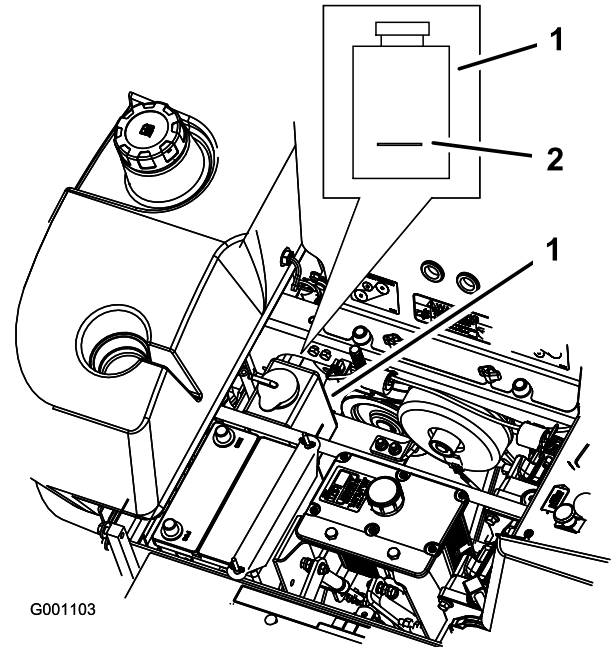

Figure 67
3. With the engine cool, check the overflow bottle level. The fluid needs to be up to the bump on the outside of the overflow bottle (Figure 67).
4. If the coolant level is low, add a 50/50 mix of extended life antifreeze and water to the overflow bottle (Figure 67).
5. Add the 50/50 coolant mix to the overflow bottle and fill it to the indicator line on the bottle (Figure 67).